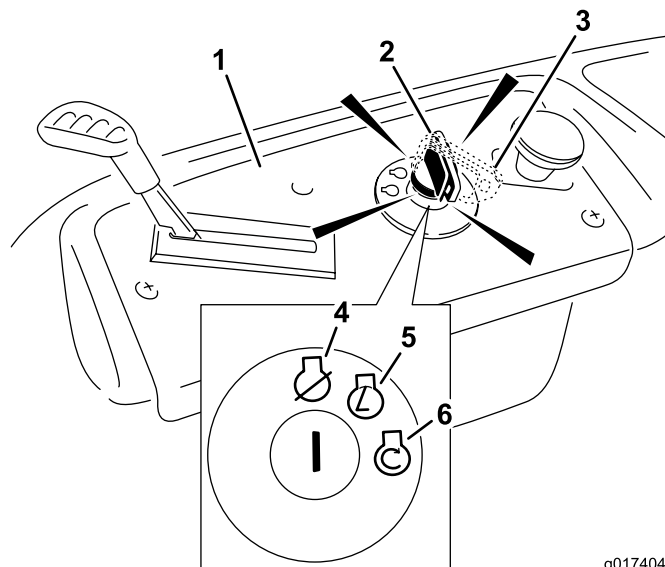

Figure 13
4. Turn the ignition key to Start to energize the starter. When the engine starts, release the key (Figure 13).
2. Move the throttle lever to Fast (Figure 13).